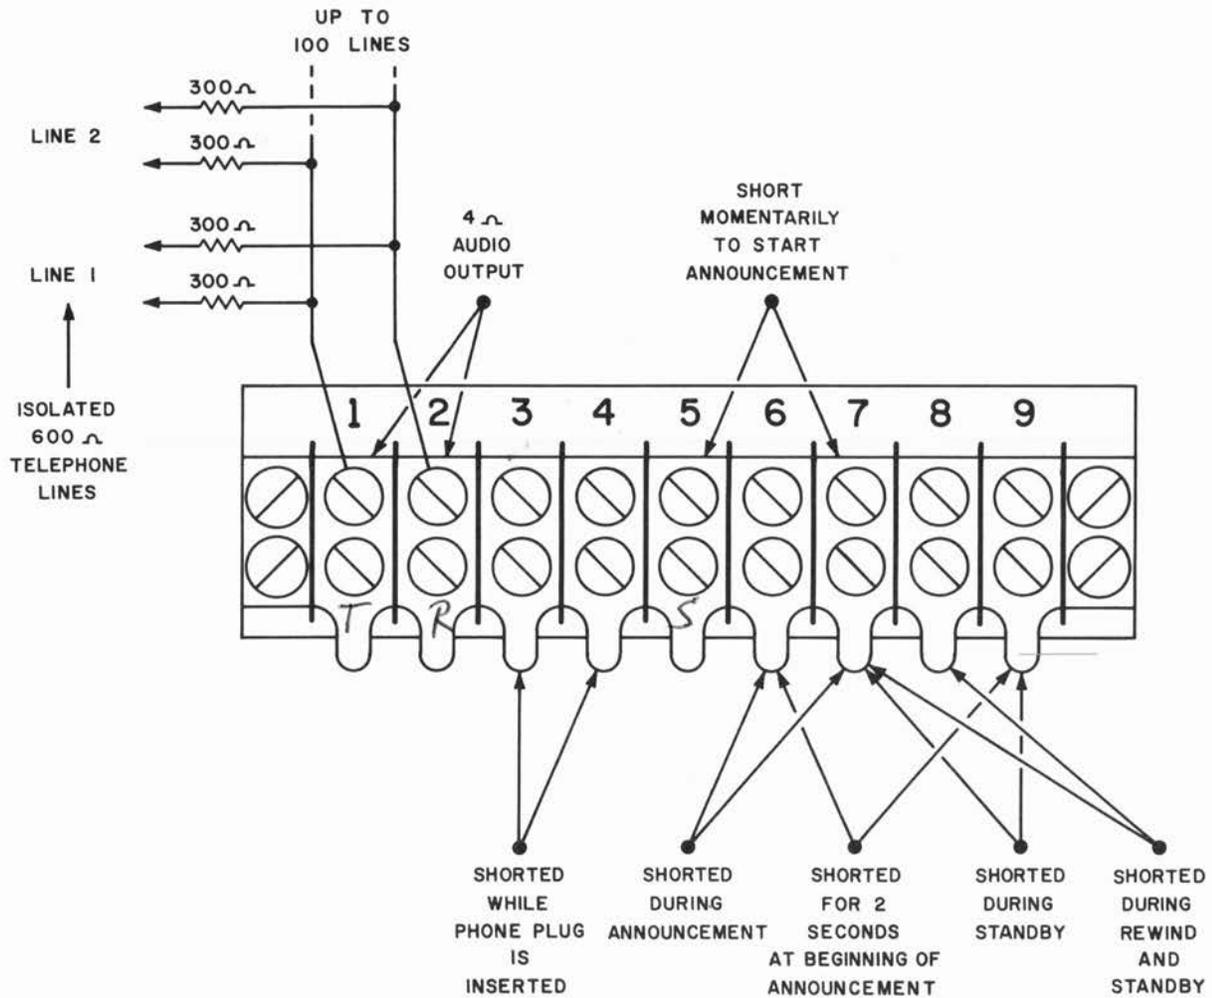

FIGURE 3-3 TELEPHONE LINE TERMINALS
Fig. 3-3 shows the control terminations provided in the Model 210DC. Any of the terminals may be grounded to the chassis, providing that the positive (+) terminal of the 48 volt D.C. supply is connected to chassis ground in the relay rack. If the negative (-) terminal of the 48 volt D.C.
The low (4 Ω) audio output impedance of the Model 210DC allows it to be matched electrically to any audio line by adding external resistors. For example, adding a 250 Ω resistor in series with each audio lead will provide a source impedance of 500 Ω . Fig. 3-3 shows the method for matching the output to several 600 Ω lines.
7. Use an ohmmeter or continuity checker to verify the indications shown in fig. 3-3.